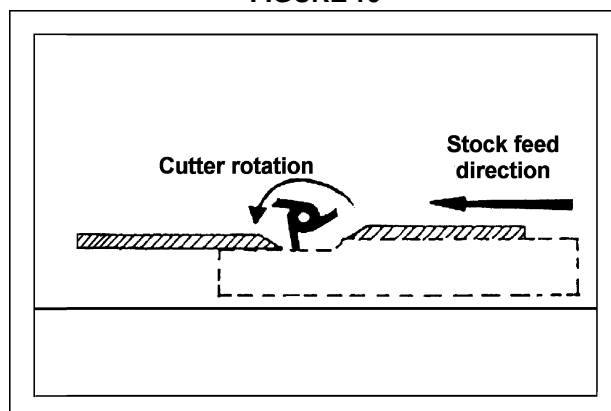

FIGURE 11
7. Turn the machine on and make sure the direction of the shaft rotation is correct. Looking down on the top of the spindle, the spindle should be turning counterclockwise as shown in Figure 11. If it is not, reverse any two incoming power leads.